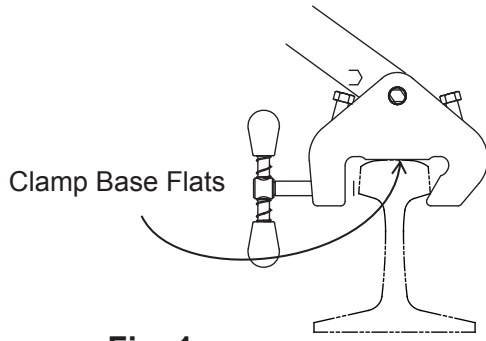
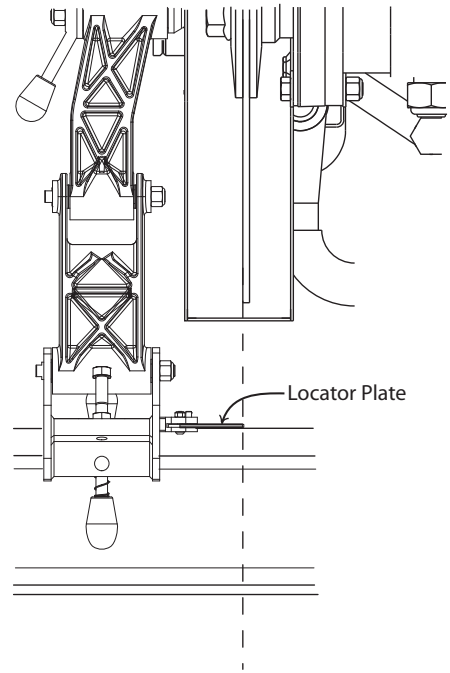

Fig. 1
Fig. 2
1. Position the clamp base on top of the rail so both clamp base flats are on the head of the rail and square to the rail. (See Fig. 1) Align the locator plate with the cut location and, tighten the clamp to the rail with the clamp screw (See Fig. 2).